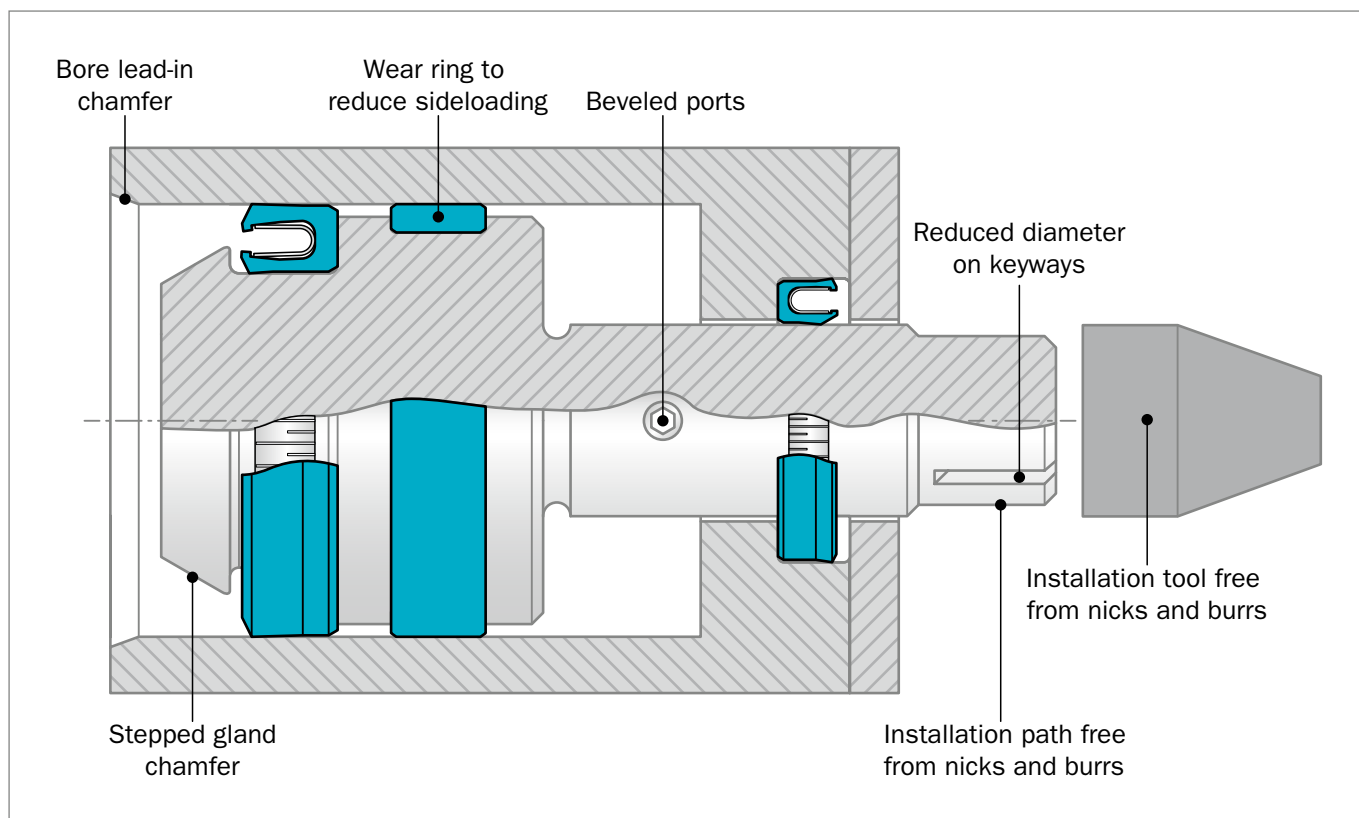

Figure 9: Methods of hardware design to prevent seal damage
- Designate splines or keyways to fall on a smaller diameter than the sealing surface or use a protective sleeve to cover them during installation as illustrated in Figure 9 below.